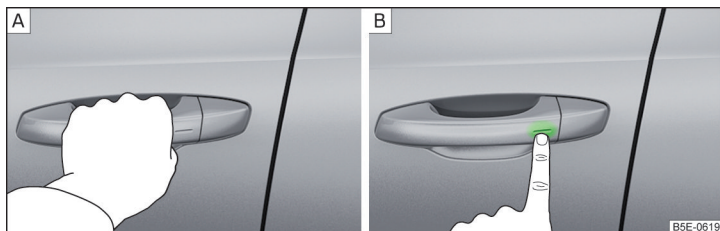

Fig. 34 Vehicle unlocking / vehicle locking
- Grip the door handle to **unlock** the vehicle » Fig. 34 - [A].
- Touch the sensor on the door handle with your finger to **lock** » Fig. 34 - [B] the vehicle.